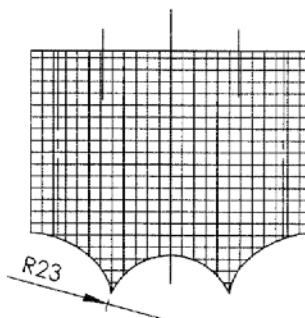

Fig. 4 - Auto-Coupler Layup Schedule
1. Scarf out and replace the carbon layers of the outside skin according to the JS1 Repair Manual, document number 1A-5.04.60. See figure 4 for the layup schedule of the Tailplane Auto-Coupler.